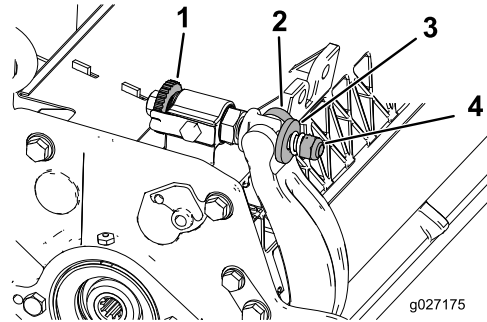

Figure 29
1. Turn the bedbar-adjusting screws counterclockwise to back the bedknife away from the reel (Figure 29).
2. Back out the spring-tension nut until the washer is no longer tensioned against the bedbar (Figure 29).